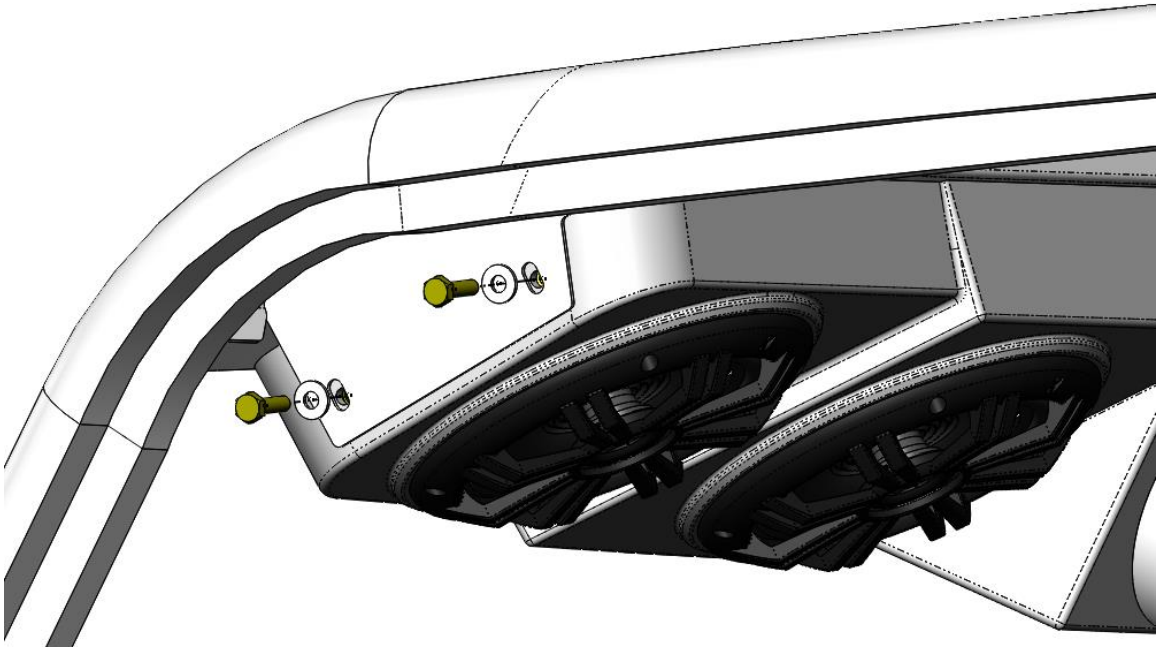
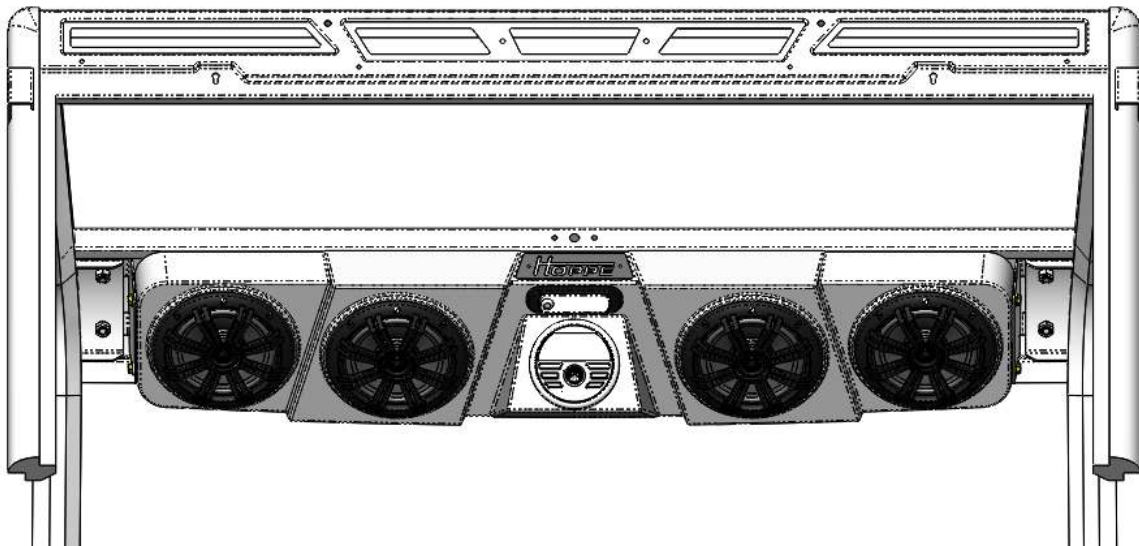

Figure 9: Install the 1/4\"-20 bolts and washers to mount the Audio Mini to the brackets.
Figure 10: Loosely install the sound system on the mounting brackets.
6. Using an assistant, hang the *Audio Mini* off-road sound system on the brackets using the supplied $\frac{1}{4}$ "-20 bolts and washers (loosely tightened). **Note: The sound system weighs up to 25 lbs. Since you will have to lift and bolt each end, it is helpful to have an assistant for this step.** See Figure 9 and Figure 10.